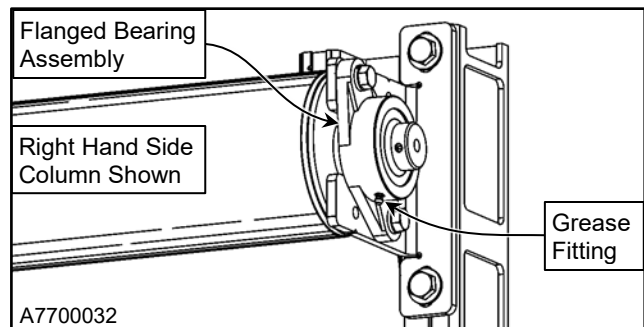

Figure 25
1. The fabric roll is supported by a flanged bearing located on the roll shaft end opposite the motor/brake assembly. The flanged bearing is equipped with a grease fitting. Recommended lubrication is a lithium-based grease conforming to NLGI Grade 2 standards. It should be medium viscosity, low torque, with an operating temperature range of -30°F to $+200^{\circ}\text{F}$. (See Figure 25)